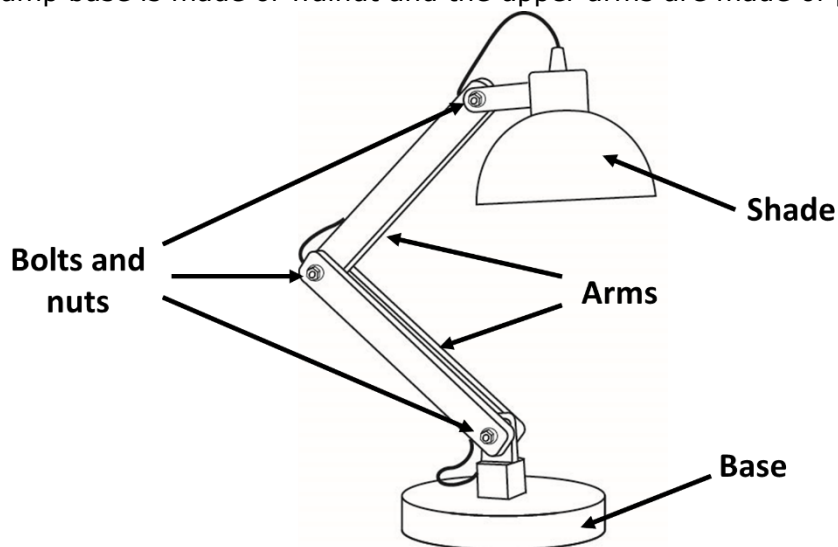

Figure 4
15. Figure 4 shows a table lamp sold in one of the home decoration shops in the shopping mall. The table lamp base is made of walnut and the upper arms are made of pine wood.